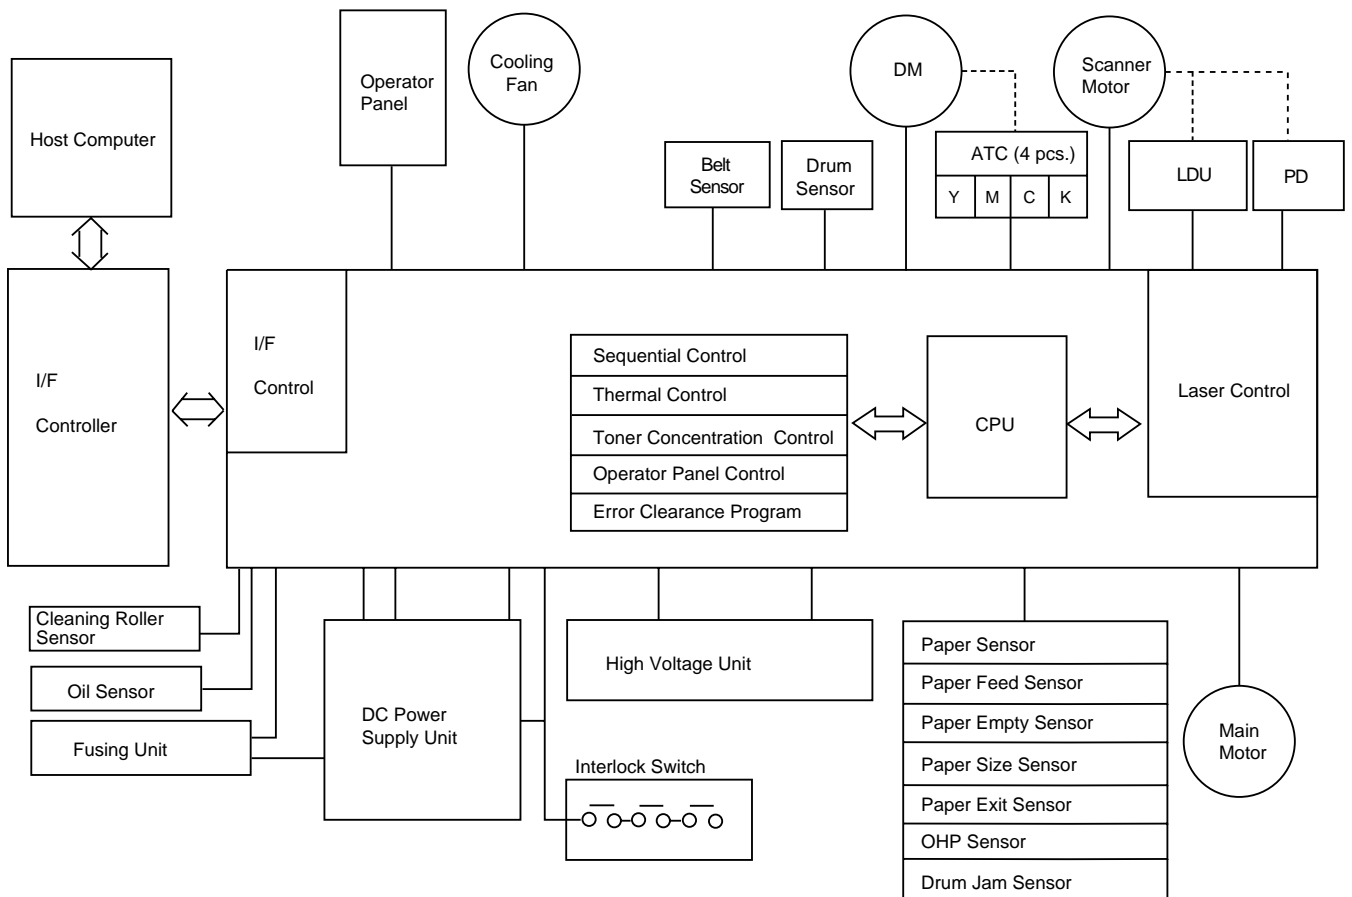

Fig.4-32
①. Control Block Diagram(Fig.4-32)